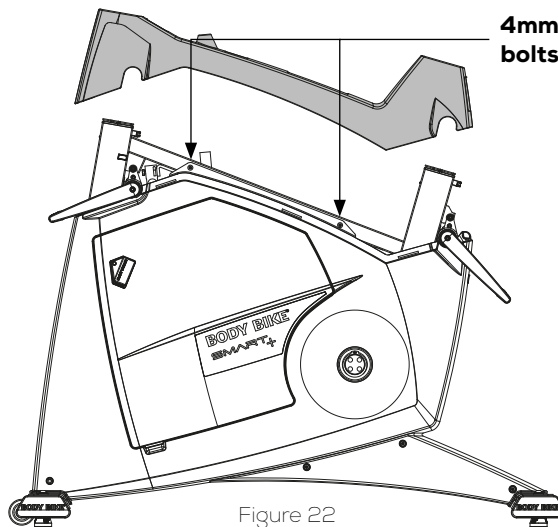

Figure 22
5) Pull off the top cover. This makes the two hidden bolts accessible. See figure 22